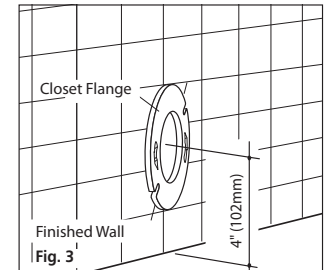

Fig. 3
- 1- It is essential for the installation of the Sydney Smart back outlet two piece washdown toilet that the closet flange be accurately set out on the finished wall as detailed in **Fig. 3**.